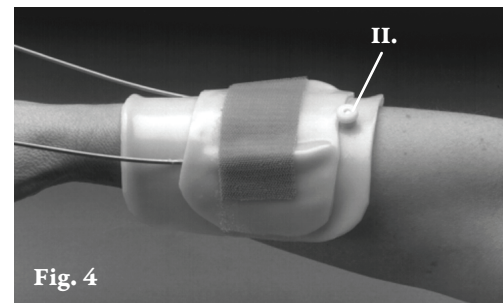
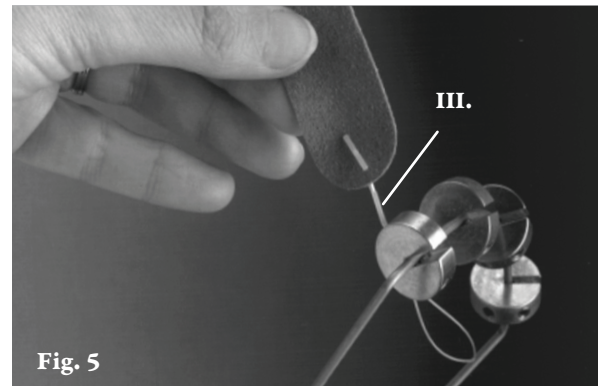
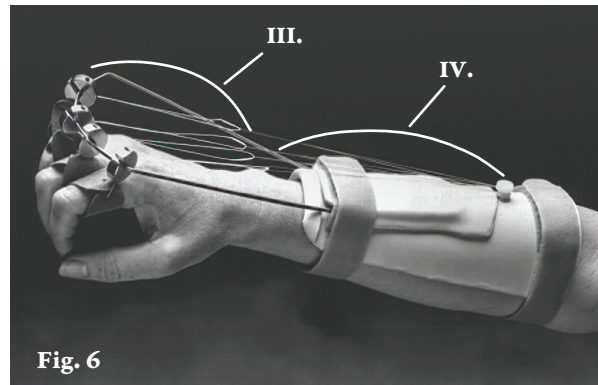

Fig. 4
Fig. 5
Fig. 6
- 4) Attach the thumb screw (II.) to the proximal end of the splint to serve as an attachment post for the monofilament line. (Fig. 4) Attach the straps. The use of two straps on the base helps to prevent slippage and distal migration. (Fig 4 and Fig. 6)
- 5) Fold the nylon lines (III.) of the pretied finger slings and thread through the slotted pulleys. (Fig. 5)
- 6) Place the wrist in slight flexion and the MP's in neutral. This is the correct position for obtaining the proper tension on the monofilament line. Cut four, 12" (30 cm) long pieces of monofilament line or braided outrigger line (IV.). Attach the distal end of each line to the loop of the pretied finger slings (Fig. 5) at the end of the doubled nylon line. Use Line Stoppers (NC22557) or Outrigger Line Connectors (NC12494) to make end loops to attach the monofilament. Attach the proximal end of lines to the thumb screw. The outrigger wire should lie close to the hand. (Fig. 6)